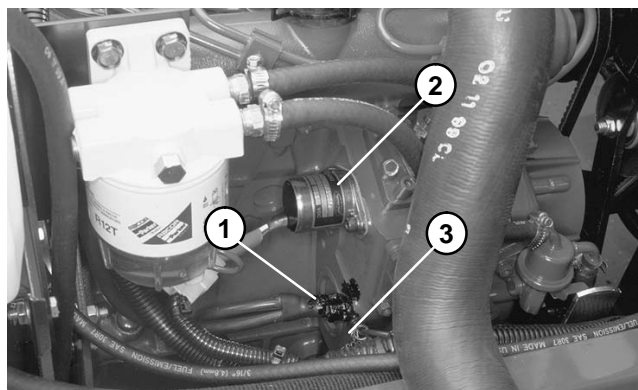

Figure 29
- B. Battery, frame, and wire harness ground to the engine block and the ETR solenoid (Fig. 29).